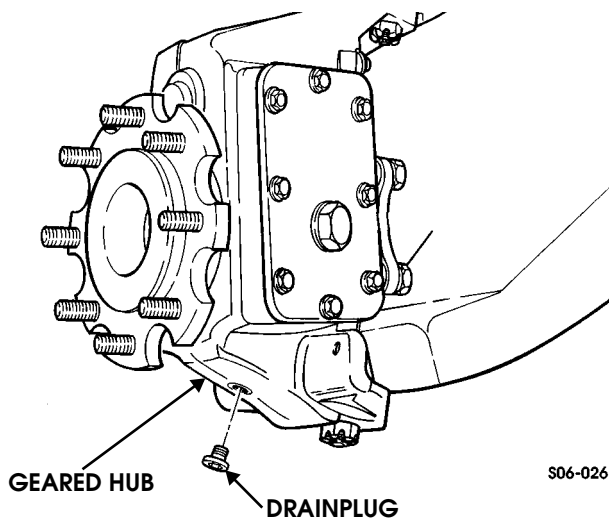

Figure 9-33: Geared Hub Drainplug Removal
2. Remove drainplug from geared hub and drain geared hub oil. Install drainplug in geared hub. Tighten drainplug to 8-13 lb-ft (11-18 N•m) (Figure 9-33).